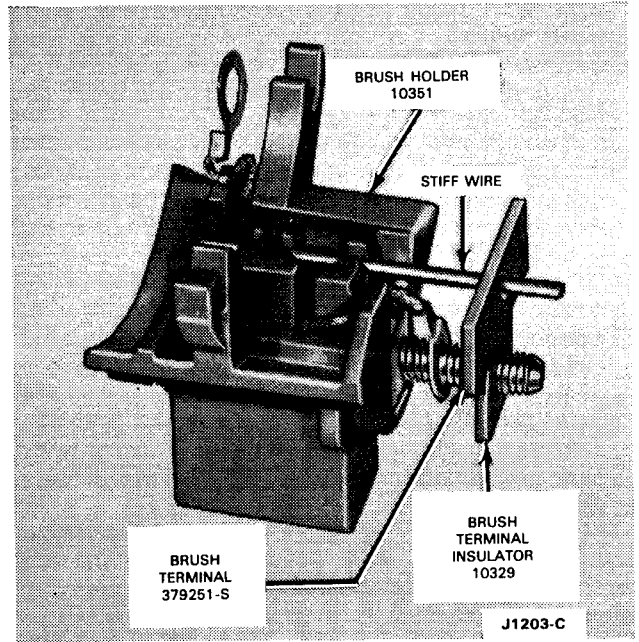

FIG. 19 Brush Holder Assembly
7. Place the brush springs, brushes, brush terminal and terminal insulator in the brush holder and hold the brushes in position by inserting a piece of stiff wire in the brush holder as shown in Fig. 19.